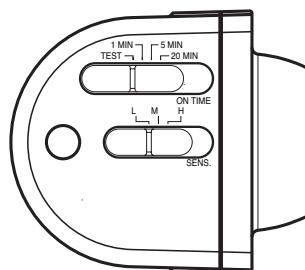

Figure 7
2. Slide the sensitivity (SENS) switch to the "LO" position and the ON-TIME switch to the TEST position (see Figure 7).